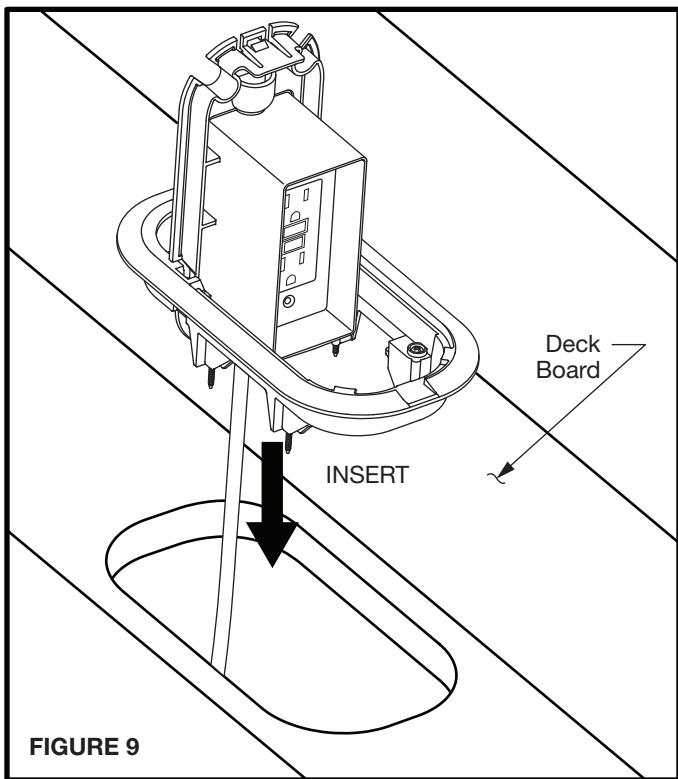

FIGURE 9
- 2.4 Place the Deck Grommet™ Pro (A) into the deck opening, position as shown in Figure 4. (see Figure 9).